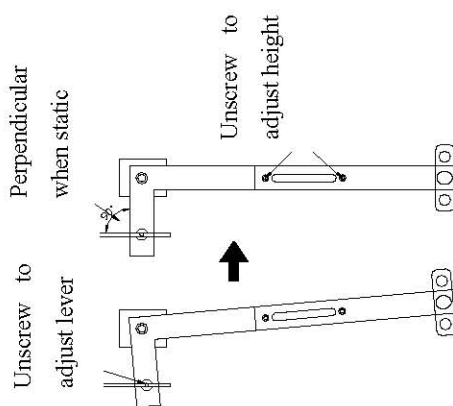

Fig.5: Adjust Width and Height of Pedal Lever
- 1、 Adjust the angle and height of pedal lever (See Fig.5):